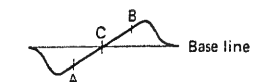

Fig. 4
2. Use the T106 core to form the S-curve shown in Figure 4. Adjust the symmetry of A and B about point C for linearity.